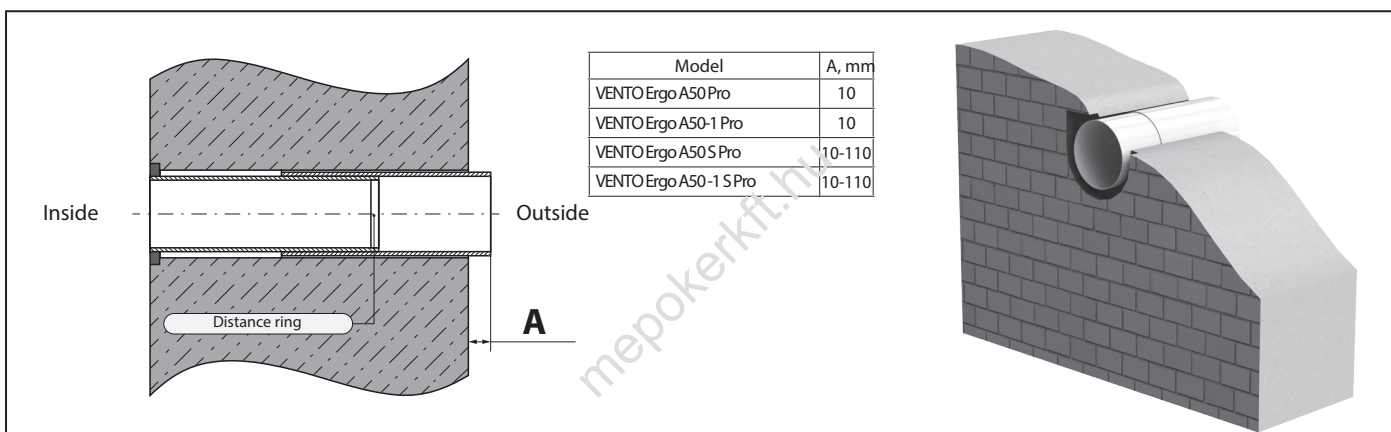

Fig. 9. Telescopic air duct mounting
3. Install the telescopic air duct in the wall. The protruding telescopic air duct section on outer wall side must be equal to the distance A, fig. 9: